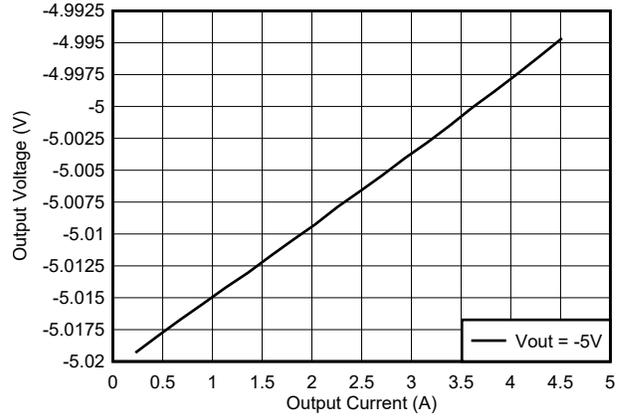

Figure 4-2. Typical 5-V Output Regulation
Stability is an important factor in the system when adding more output capacitance. The general rule of thumb for a stable design is a desired phase margin (PM) of at least 45° or greater realized at the 0dB of loop gain. In extreme conditions too much output capacitance added to the system may result in a lowered bandwidth and slower transient response. Table 3-1 shows the PM for each output voltage selection measured from a TPSM63610EVM modified for inverting buck boost application using the default bill-of-material which can be found in TPSM63610 36-V, 8-A Buck Regulator Evaluation Module User's Guide. For other application conditions, it is recommended to design and verify proper stability using a frequency analyzer, refer to Working With Inverting Buck-Boost Converters, application note (figure 4-2) for setup.